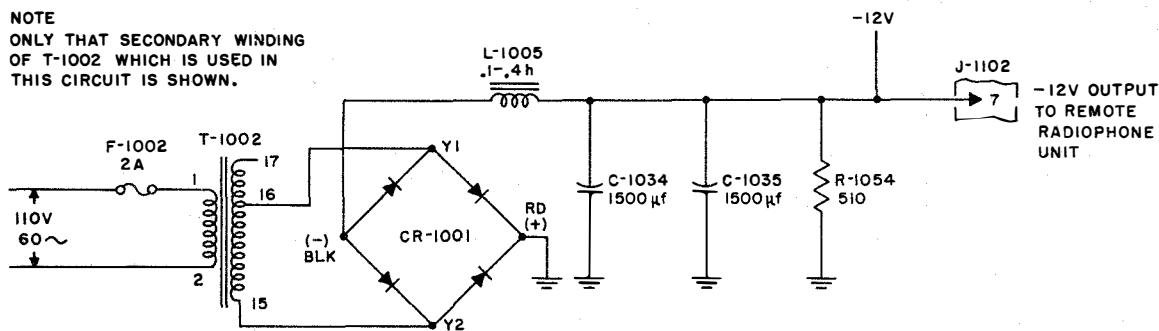

Figure 2-90. -12-Volt Power Supply, Simplified Schematic
f. -12-VOLT POWER SUPPLY.—The -12-volt power supply (figure 2-90) uses a metallic bridge rectifier, CR-1001, connected to give a negative voltage output. Rectifier CR-1001 receives 16.5 volts rms from terminals 15 and 16 of T-1002. The output is filtered by L-1005, C-1034, and C-1035 with R-1054 acting as a bleeder. The -12 volts is supplied to the DYNAMIC-CARBON switch (Y), S-1102 in the LLRM, for use as operating voltage for the carbon microphone. The output is also fed to the remote radiophone unit where it is the operating voltage for the carbon microphone and the CARRIER ON indicator and control relay in addition.